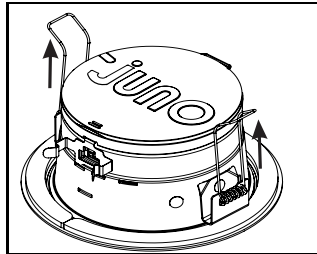

Figure 9
**Step 7.** Make sure the cap over the CCT and lumen select switches is closed. Push springs to upright position (Fig. 9), and slide through ceiling cutout. The ends of the springs will catch the edge of the hole and pull the fixture into position.